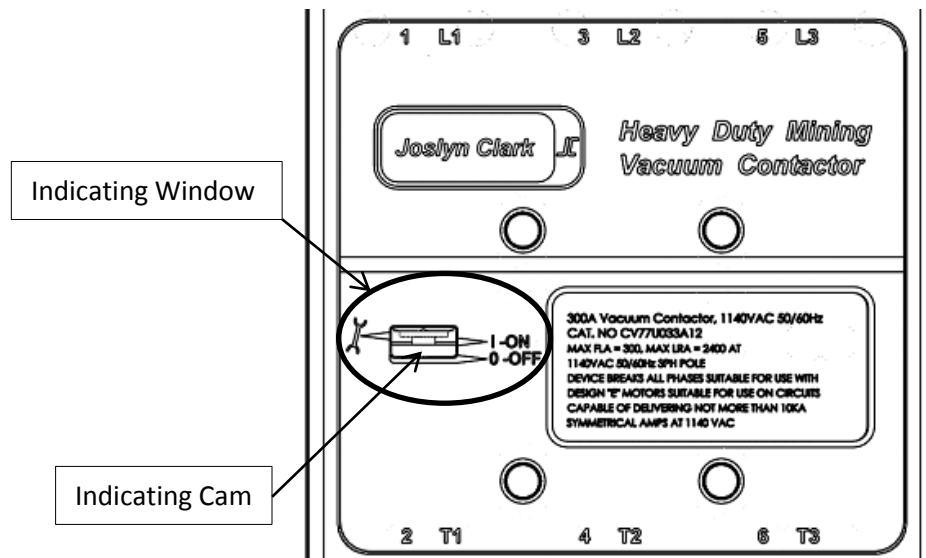

FIGURE 13
2. View the location of the Indicating Cam in the Indicating Window (FIGURE 13). If the edge of the Indicating Cam is passed the ON indication range and within the edit image indication range, then the over travel has been exhausted and the contact life used up. The contactor should be replaced. (**NOTE** - It may be helpful to use a flashlight while viewing the Indicating Cam through the Indicating Window.)